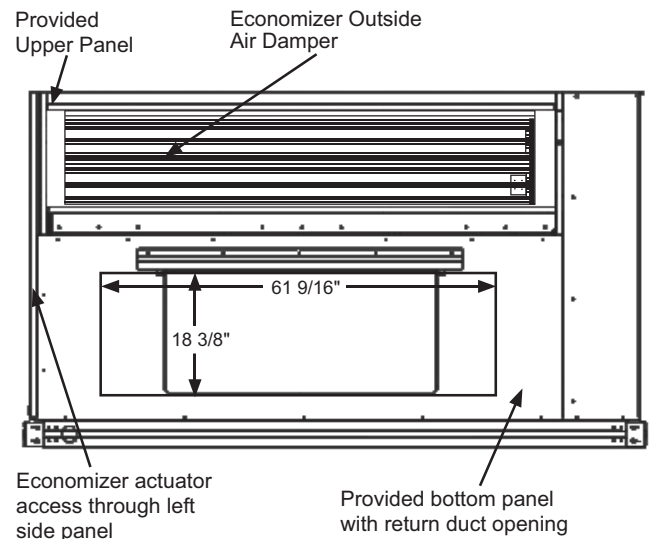

Fig. 17 — End View of Horizontal Unit
10. Install the upper end economizer panel over the economizer's outside air damper, and above the bottom panel. Screw the panel in place, then screw the panel into the economizer in 2 places. (See Fig. 17.)